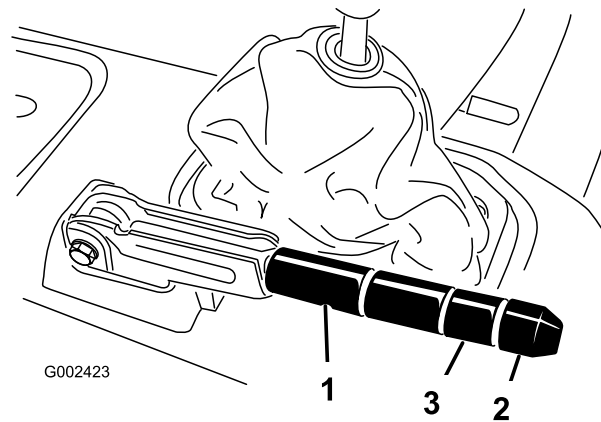

Figure 64
2. Loosen the set screw securing the knob to the parking brake lever (Figure 64).